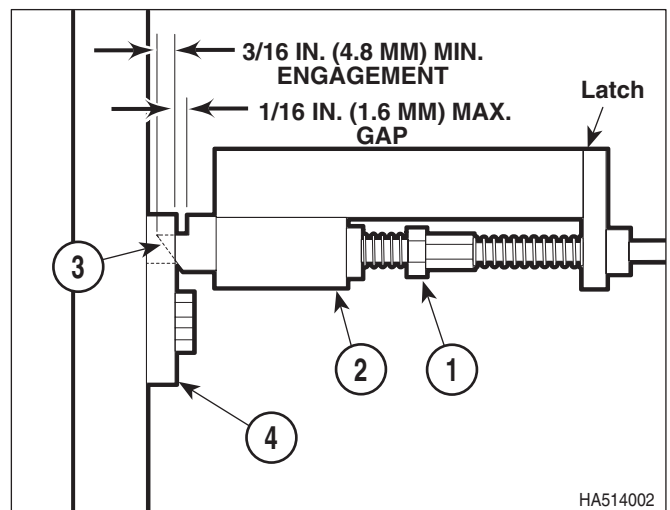

Figure 4-30. 511, 516, 540, and 545 Siderail Latch Adjustment
- (1) Loosen screw (1, Figure 4-30) four or five turns.